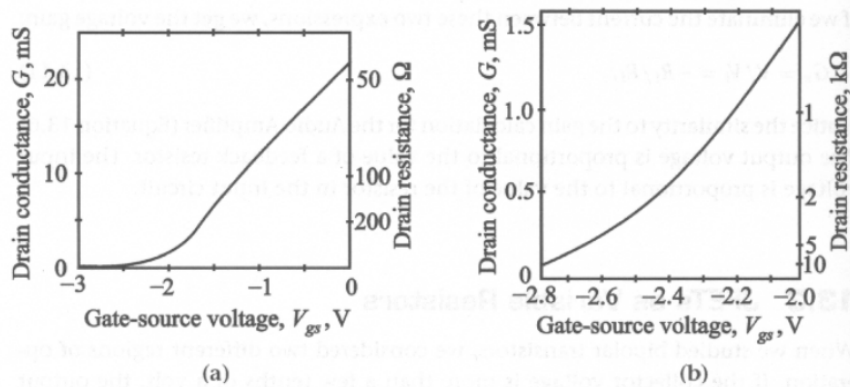

Figure 13.5. Drain conductance in the linear region for the J309 JFET as a function of the gate voltage (a), and the high-resistance region near cutoff (b).
Plots of these two quantities in (3) are shown in Fig. 13.5: